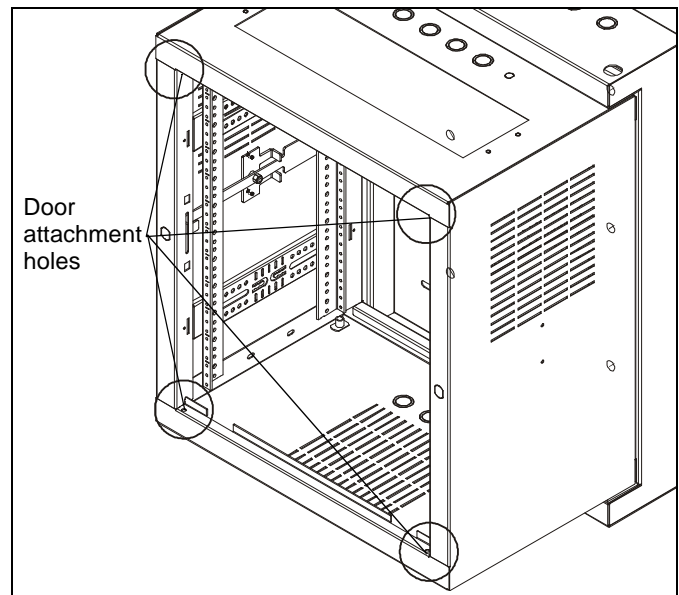

Figure 3
3. Insert door (A) into rack, aligning the spring handle ends with the holes in the top and bottom of rack. (See Figure 3)